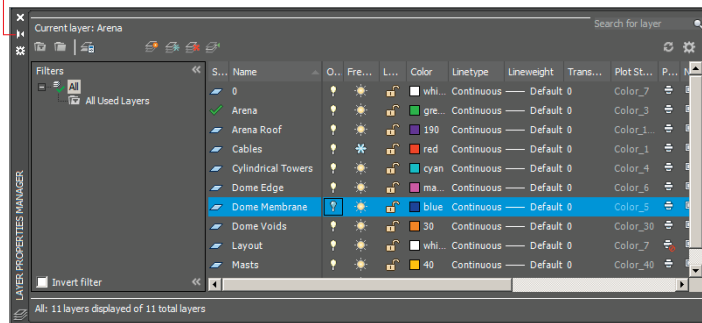

FIGURE 17.3 Changing layer properties
- Click the Auto-hide toggle so that the palette collapses when the cursor isn't over it (see Figure 17.3).